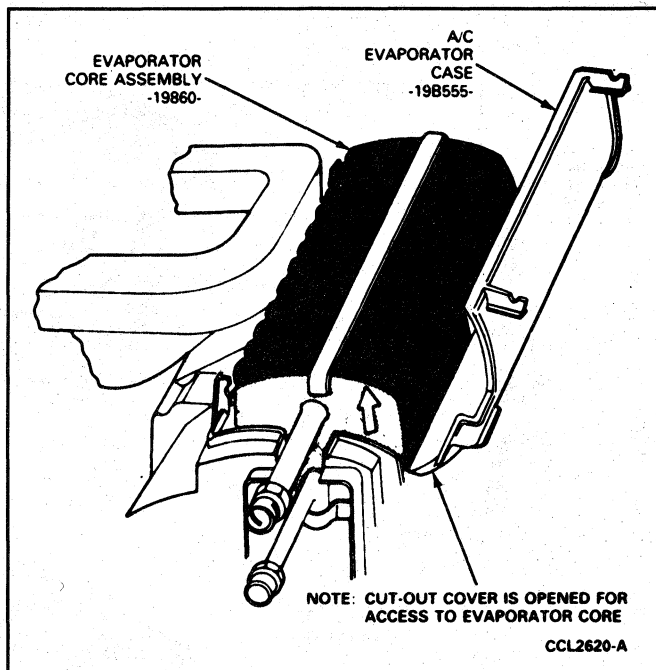

FIG. 39 Evaporator Core Removal from Case
12. Fold cutout cover back from opening and lift evaporator core from case (Fig. 39).